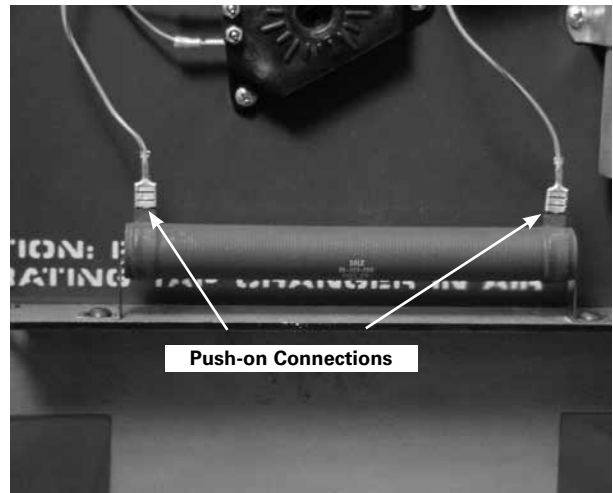

Figure 2. Resistor connections
- Using a pair of needle nose pliers remove the push on connections from each end of the resistor. See Figure 2.